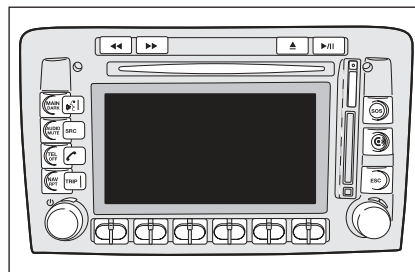

fig. 4
- with Connect Nav + **fig. 4**.